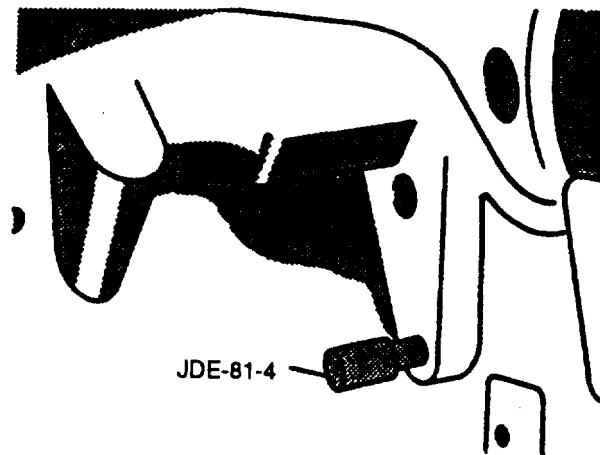

FIGURE 3-42. Flywheel Locking Tool
- (1) If there is a mark on cam ring and governor weight retainer, proceed with removal.
- (2) If there is no mark on governor weight retainer, scribe a mark on weight retainer (front mark) directly in line with mark on cam ring (rear mark).
- (3) Remove capscrew from left side of flywheel housing to gain access to timing hole in flywheel and insert locking pin (JDE-81-4), refer to FIGURE 3-42.